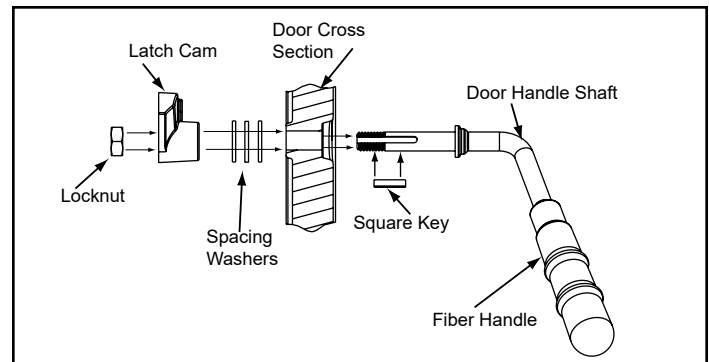

Figure 5.9
3. Install additional washer(s) as shown in **Figure 5.9**.
7. Install handle turning in a counter-clockwise motion to desired location on door handle rod (**Figure 5.9**).